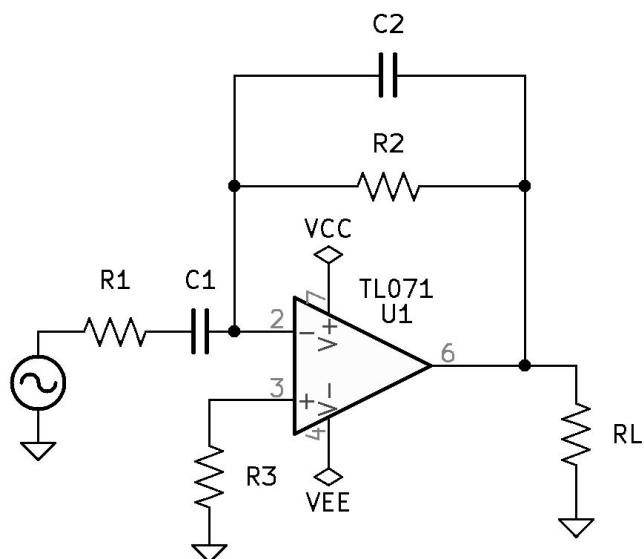

Figure 8.5: Band-Pass First-Order Active Filtering Circuit.
1. See Figure 8.5 *Band-Pass First-Order Active Filtering Circuit* on page 82.